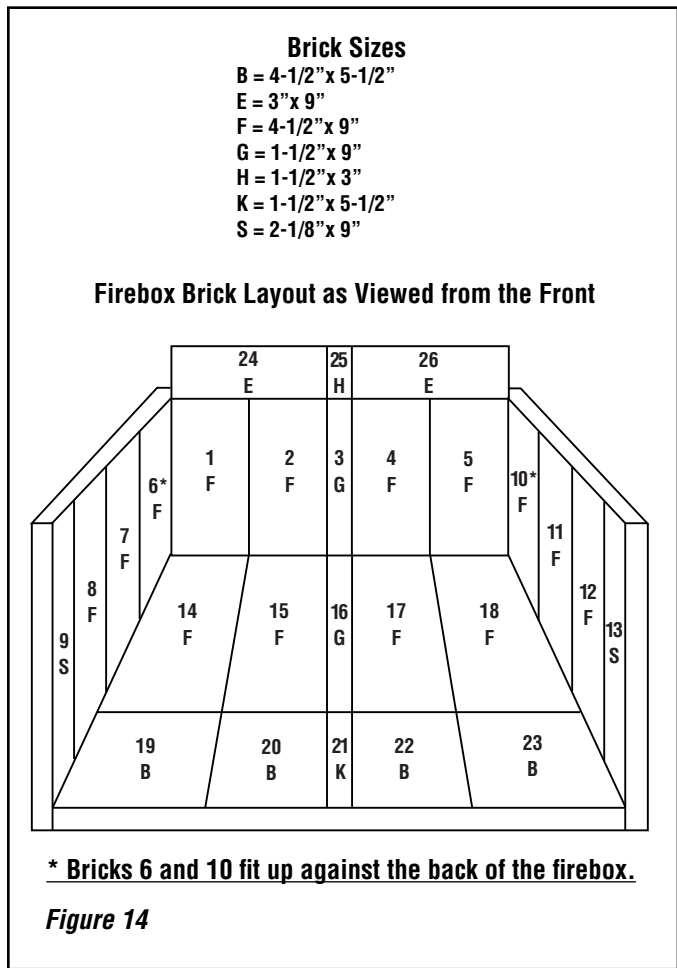

Figure 14
1. Install bricks #1-26 in the numbered sequence shown in **Figure 14** on **Page 16**.